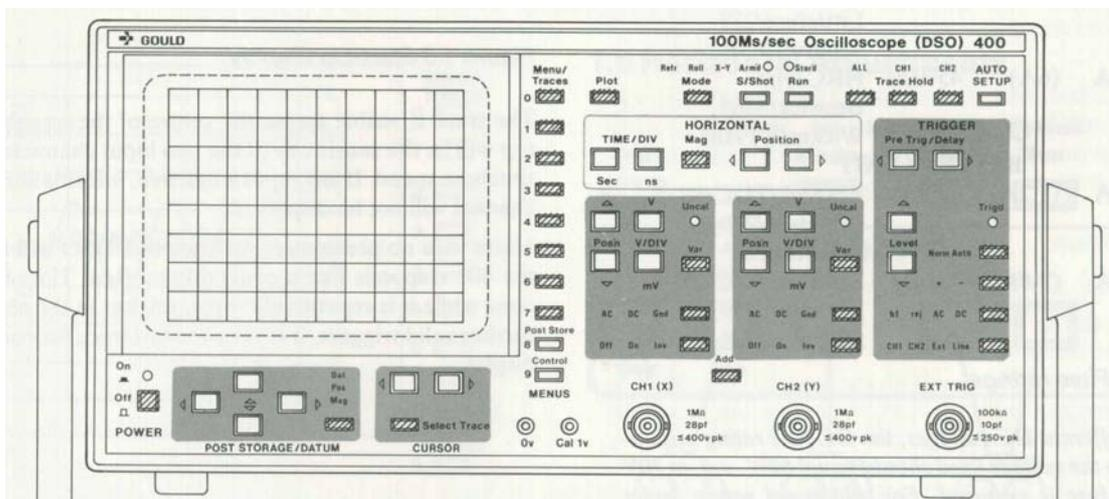

Figure 1.2b The Toggles
The second type are toggles: each press of the button either switches something on or off e.g. Add (10) , or selects the next item in a sequence e.g. Off/On/Inv (13) . See Figure 1.2b.